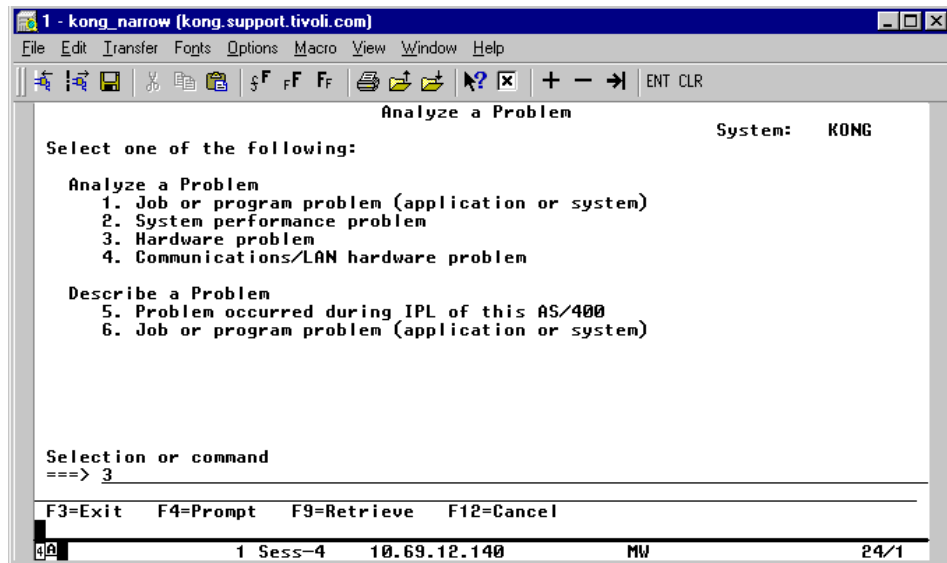

Figure 181. ANZPRB: Analyze a Problem
- b. Select option **1** and press **Enter**. This will bring up the Analyze Problem panel shown in Figure 181 on page 334.